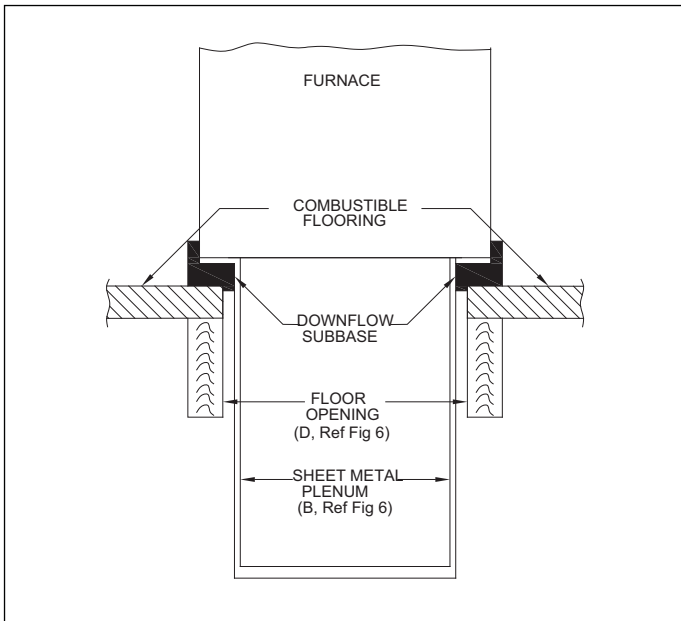

Figure 7 Furnace, plenum, and subbase installed on a combustible floor
4. If downflow subbase is used, install as shown in Fig. 7.